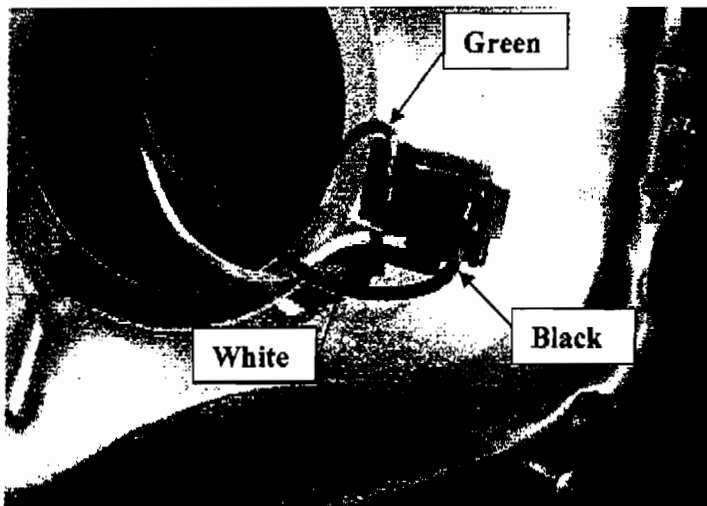

Figure 30. Correctly wired bulb connector. (Viewed from backside)
4. Look at the orientation of the connector and the positions of the green, white and black wires, and compare with Figure 30 for the CORRECT locations.